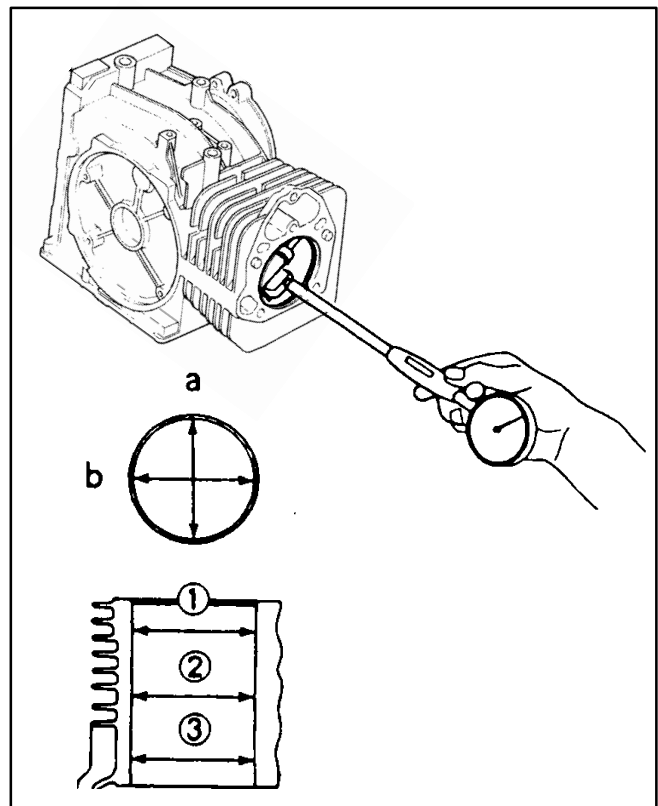

FIGURE 9-20. MEASURING CYLINDER WEAR
1. Measure the ID of the cylinder at six points (Figure 9-20).